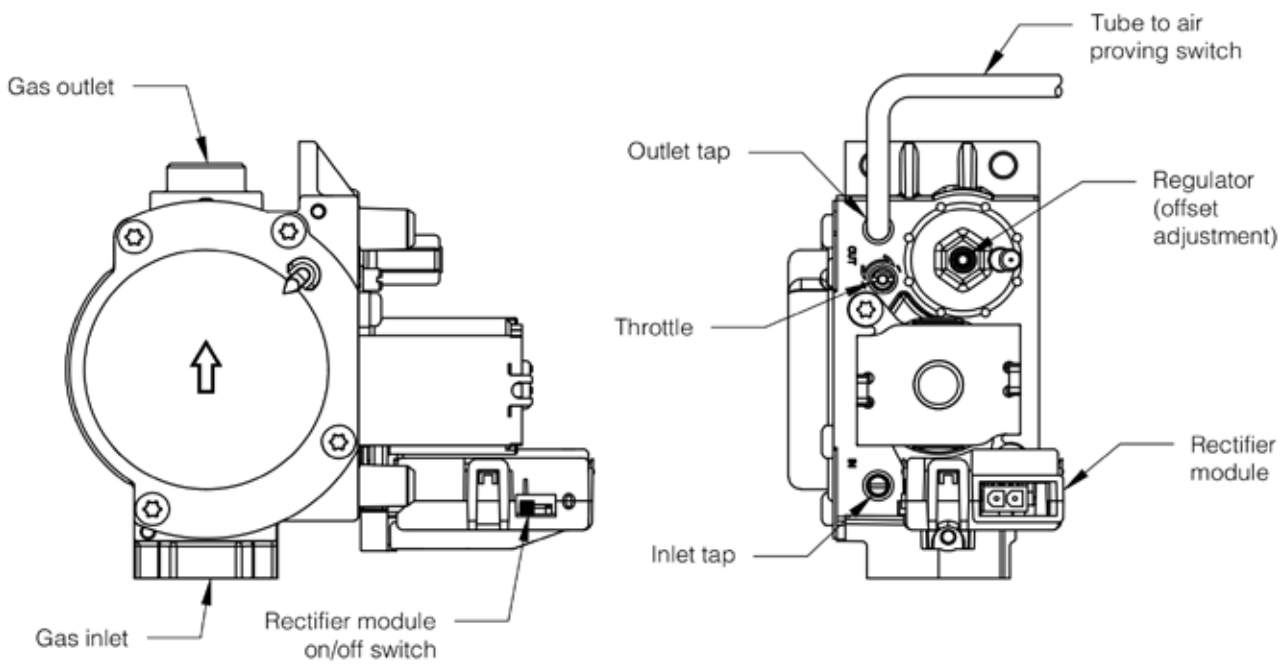

Figure 11.4: Gas Valve Detail (80HB-180HB)
- a. With burner at high fire, adjust gas valve throttle (Fig 11.4) as needed to obtain CO₂ (or O₂) setting shown in Tables 11.5A and 11.5C.
- b. With the burner at low fire, adjust gas valve offset regulator (Fig 11.4) as needed to obtain CO₂ (or O₂) setting shown in Tables 11.5A and 11.5C.